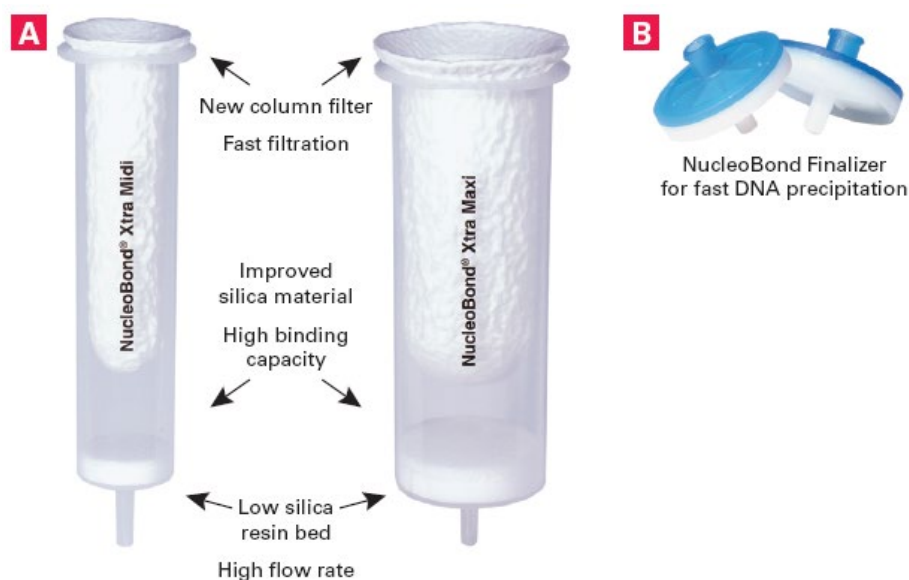

Figure 4. Advanced features of NucleoBond Xtra Maxi and Midi Columns and NucleoBond Finalizer.
4. Perform a midi- or maxi-scale plasmid DNA preparation for each plasmid that will be transfected into the packaging cells. For guaranteed transfection-grade plasmid DNA, we recommend using NucleoBond Xtra Midi Plus or Maxi Plus Kits (Figure 4; Cat. Nos. 740412.10 and 740416.10). For rapid production of endotoxin-free, transfection-grade plasmid DNA, use NucleoBond Xtra Midi EF Plus or Maxi EF Plus Kits (Cat. Nos. 740422.10 and 740426.10).